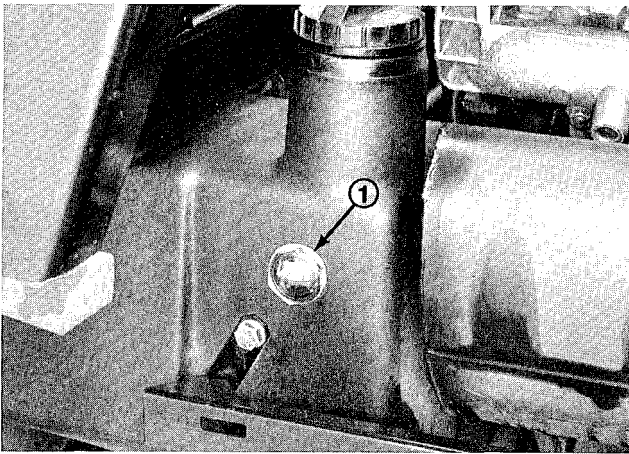

Figure 42
5. With wing decks raised, center deck down and oil warm, look into sight gauge (Fig. 42). If hydraulic oil is not visible, add enough oil to raise level to middle (maximum) of sight gauge. To prevent over filling, do not fill if oil is cold. **DO NOT OVER FILL.**